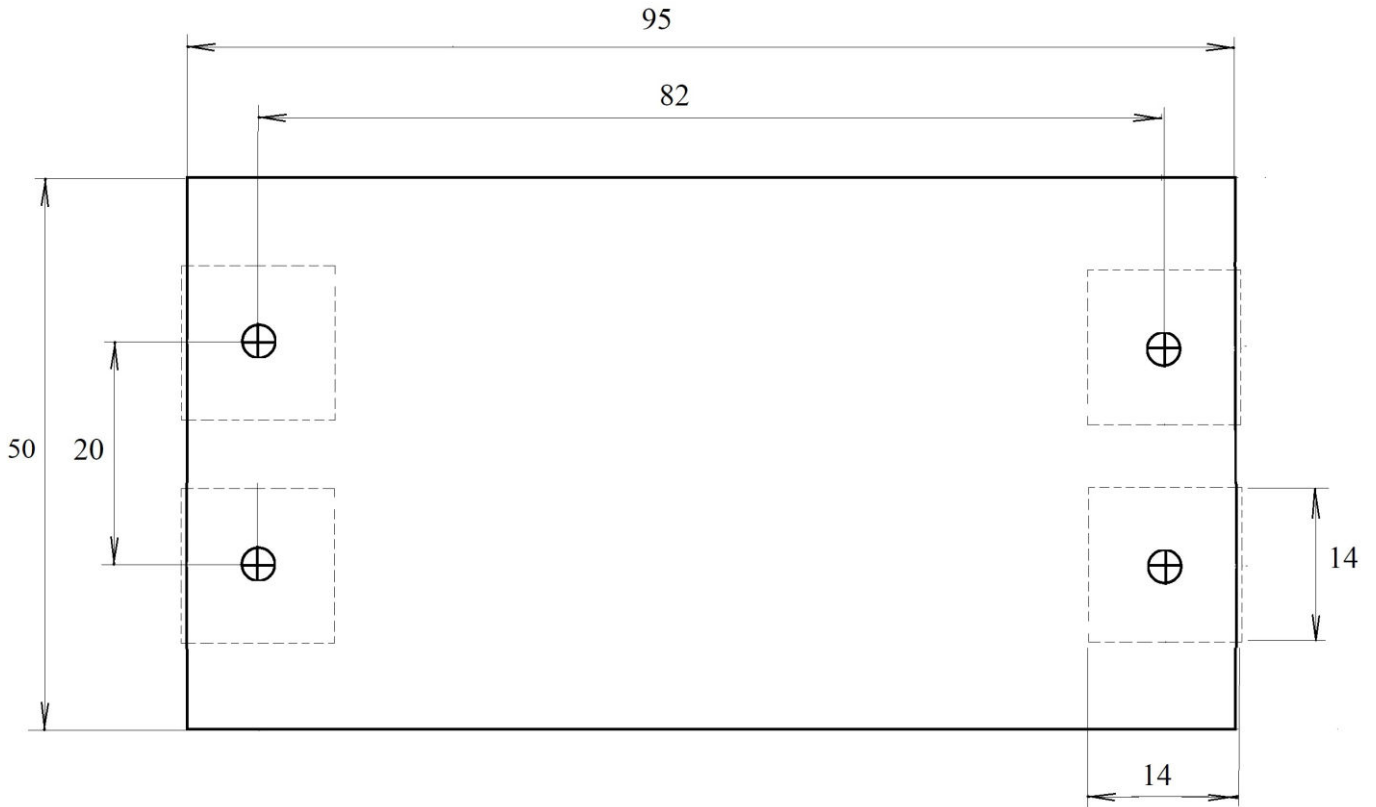

Figure 2.1 – Mounting markings
- mark the mounting points of the board in accordance with Figure 2.1.